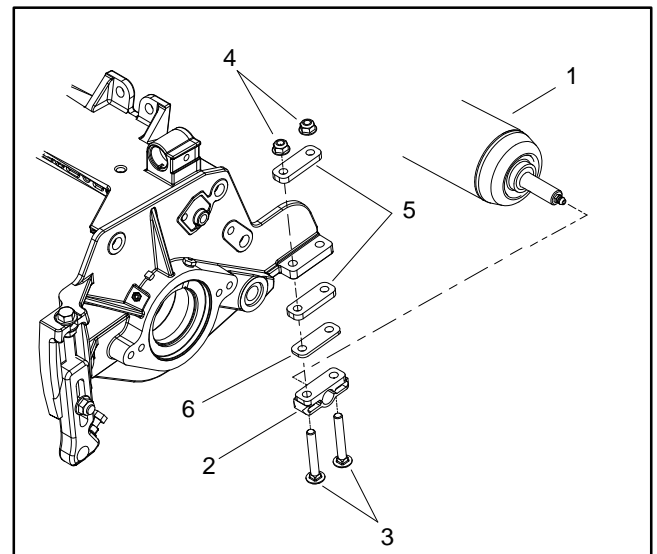

Figure 14
7. If rear roller is still not level after adjusting both side plates, check to see if cutting reel is tapered (see Preparing Reel for Grinding in the Service and Repairs section of this chapter). If cutting reel is not tapered and rear roller is not level, a 0.010" shim (part number 107-4001) is available to allow additional rear roller adjustment. The shim would be used on one side of the rear roller and should be installed between the rear roller bracket and roller shim (Fig. 14).